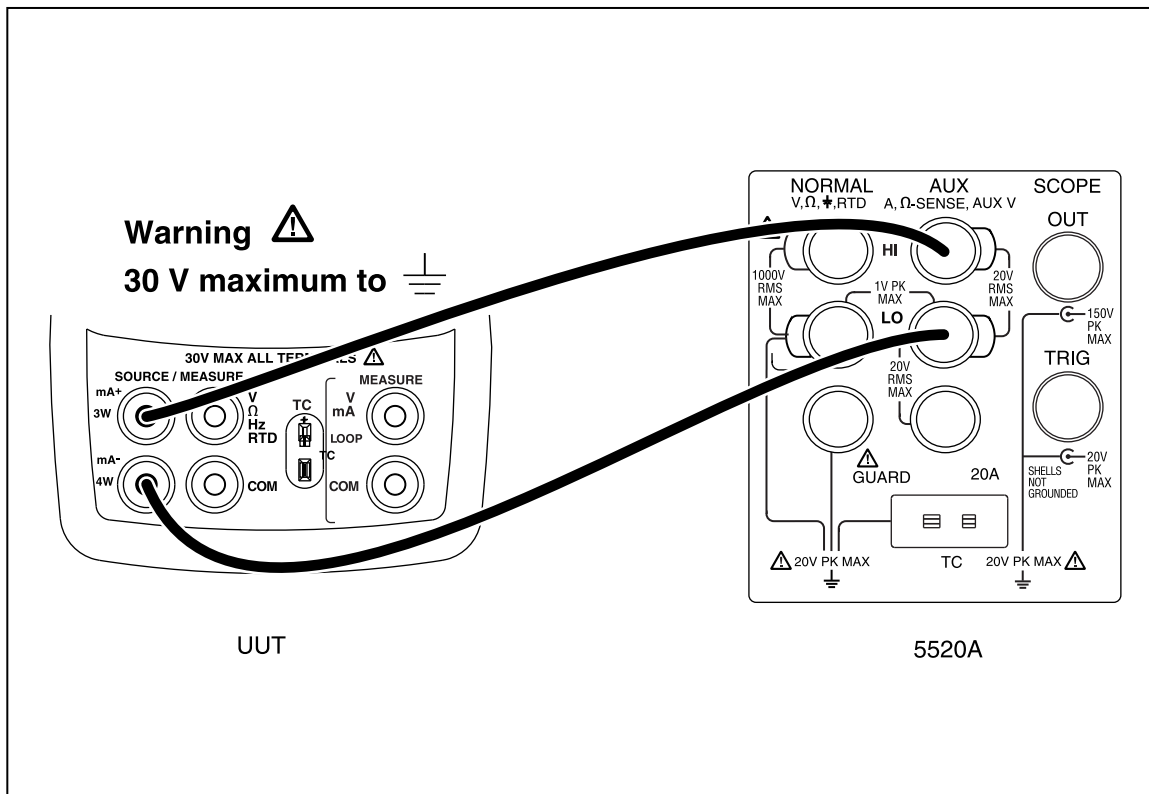

Figure 5. Lower Display mA Test Connections
3. Make the connections shown in Figure 5.